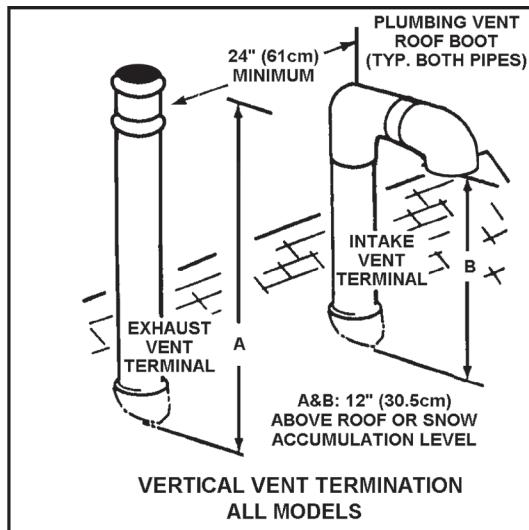

Figure 17
4. The center line of the air intake termination and the center line of the exhaust vent termination must be no closer than 24" (61cm). See Figure 17 and Figure 18.